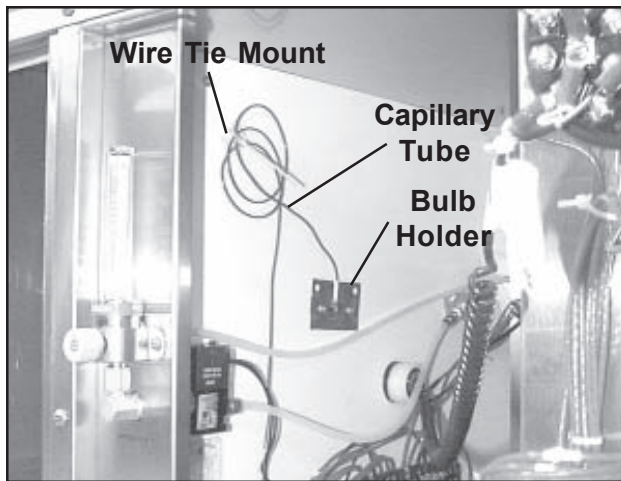
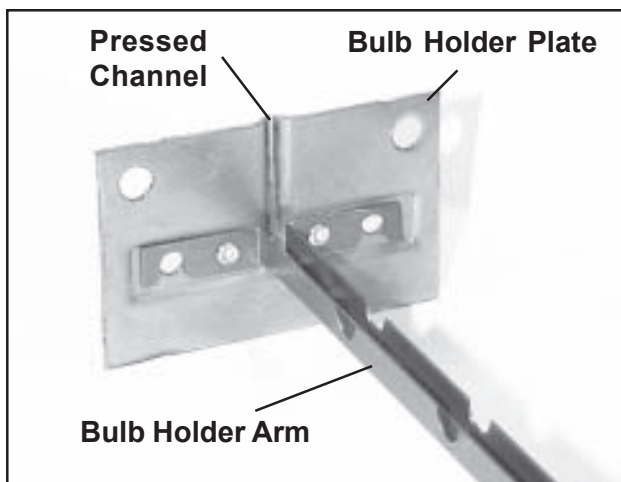

Figure 129. Capillary Tubing and Bulb Holder
Figure 131. Bulb Holder
14. With a knife or small cutter, cut the wire tie that holds the copper capillary tubing to the adhesive tie-mount on the partition (Figure 129).
1. From the electronics compartment, insert the sensor bulb through the opening in the partition and into the filter/fans compartment (Figures 129 and 130).
2. In the same way, insert the bulb holder through the opening. The open side of the bulb holder arm should be on top (Figure 131).
3. Mount the bulb holder to the partition with the two screws/nuts removed earlier (Figure 129). **Note:** Make sure that the capillary tube runs upward through the pressed channel in the bulb holder plate (Figure 131).
12. Neatly coil up the excess capillary tubing and bind it to the adhesive tie mount with a small wire tie (Figure 129).